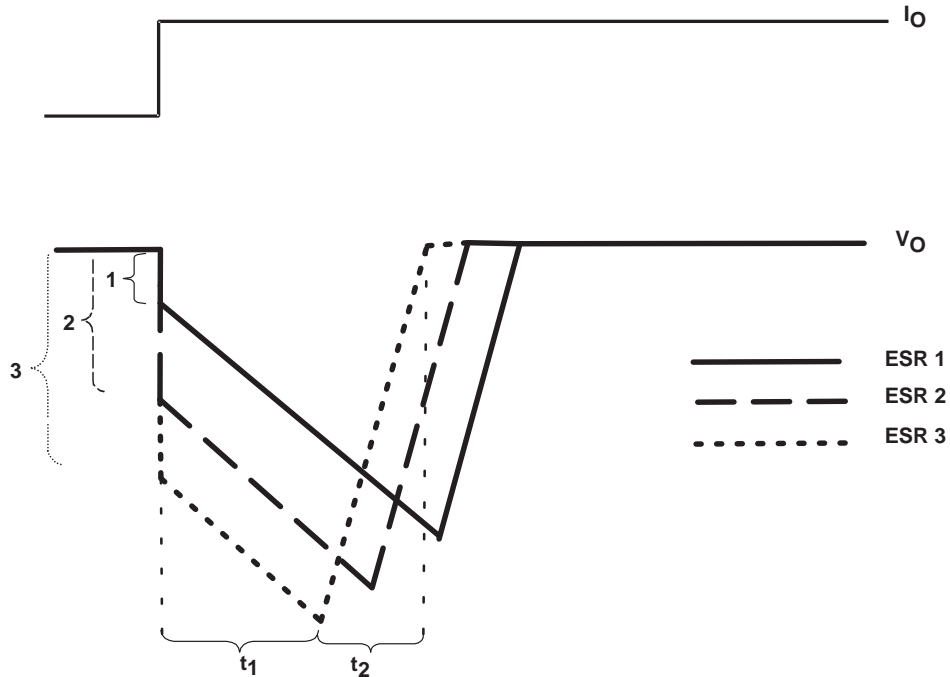

Figure 23. Correlation of Different ESRs and Their Influence to the Regulation of V_o at a Load Step From Low-to-High Output Current
- The LDO is not able to supply the sudden current need due to its response time (t_1 in Figure 24). Therefore, capacitor C_O provides the current for the new load condition (dashed arrow). C_O now acts like a battery with an internal resistance, ESR. Depending on the current demand at the output, a voltage drop will occur at R_{ESR} . This voltage is shown as V_{ESR} in Figure 23.